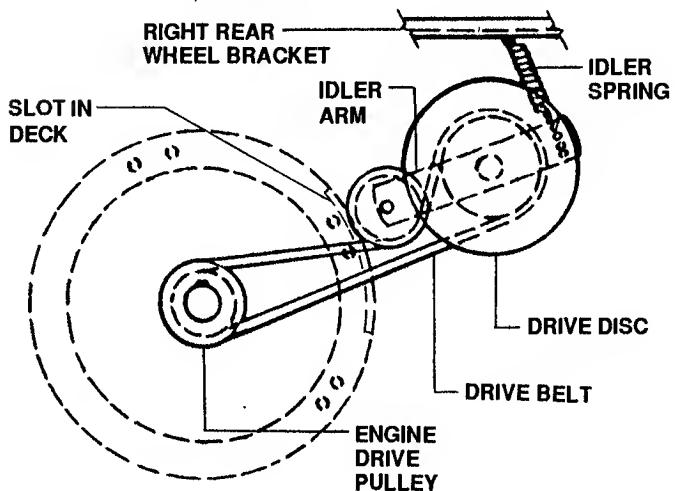

FIGURE 3.21
- Loop one end of new belt, Part No. 1-2353, over engine pulley and insert other end through slot in deck. See Figure 3.21.